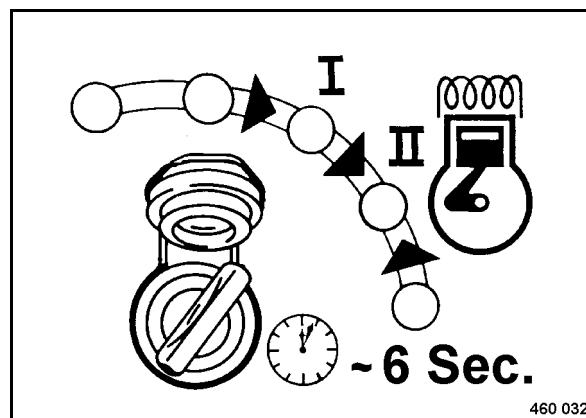

Fig. 44
- Turn the ignition key (Fig. 44) through position "I" to position "II" and hold it for approx. 6 seconds.